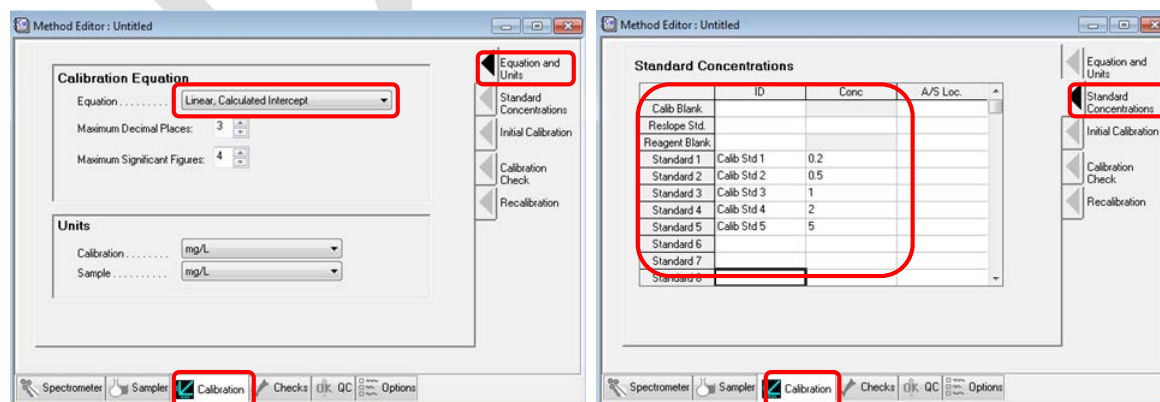

Fig. 18
3.2.5 Set parameters for **calibration**: set equation (linear, calculated intercept), units and standard concentrations (fig.18).